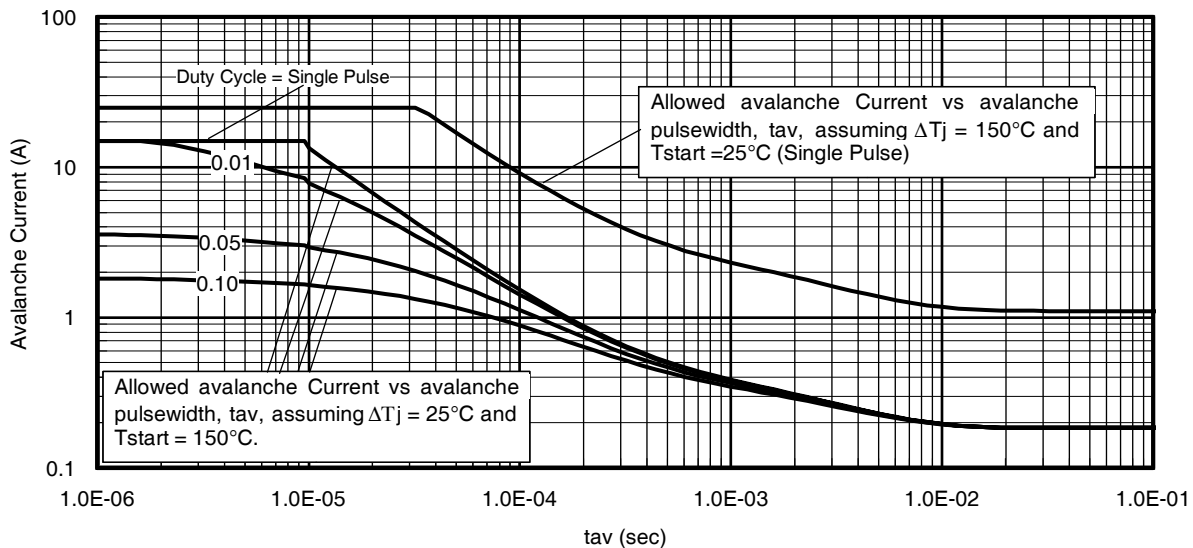

Fig 14. Typical Avalanche Current Vs. Pulsewidth
- ① Repetitive rating; pulse width limited by max. junction temperature.
② Starting $T_J = 25^\circ\text{C}$, $L = 1.00mH$, $R_G = 25\Omega$, $I_{AS} = 15A$.
③ Pulse width $\leq 400\mu s$; duty cycle $\leq 2\%$.
④ R_{θ} is measured at T_J of approximately 90°C .
⑤ Limited by T_{jmax} . See Figs. 14, 15, 17a, 17b for repetitive avalanche information
Notes on Repetitive Avalanche Curves , Figures 14, 15:
7. ΔT = Allowable rise in junction temperature, not to exceed T_{jmax} (assumed as 25°C in Figure 14, 15).